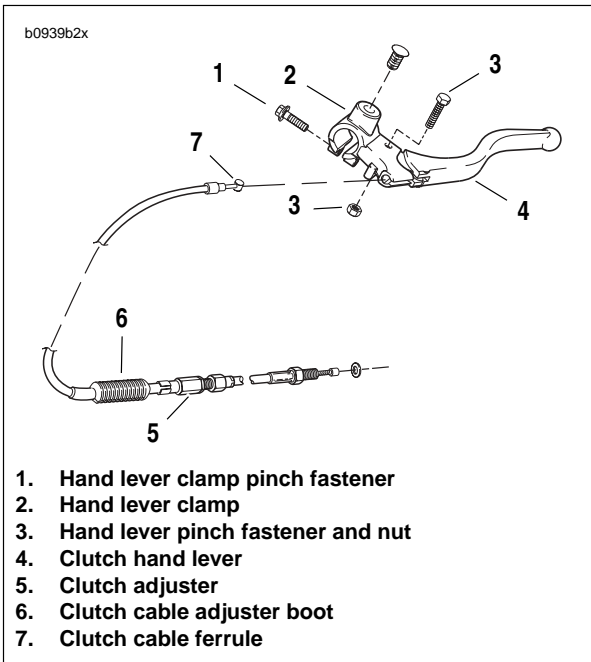

Figure 2-100. Clutch Hand Control Assembly
10. See Figure 2-100. Connect clutch cable ferrule (7) to hand lever (4).